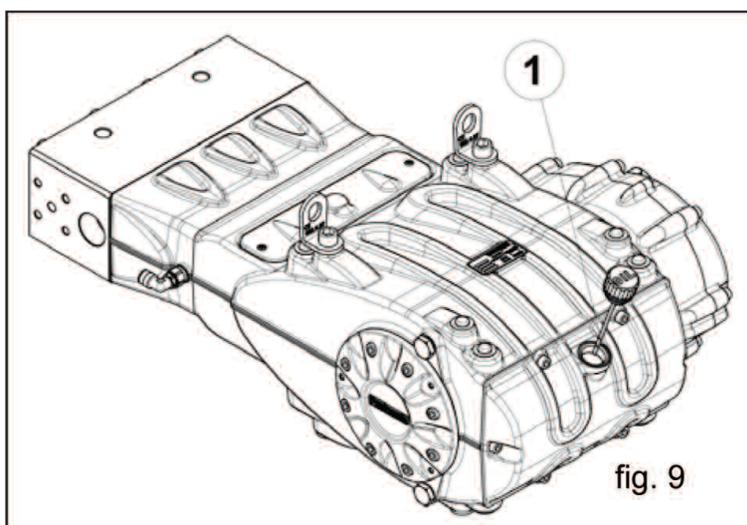

fig. 9
5. The pump's oil level must be verified using the correct dipsticks (position 1, fig 9).
In case the pump has not run for a long period of time, recover the correct operation of the suction valves by opening the three valve-lifting devices (see fig. 9). Be sure to reclose the valves before the pump start-up.